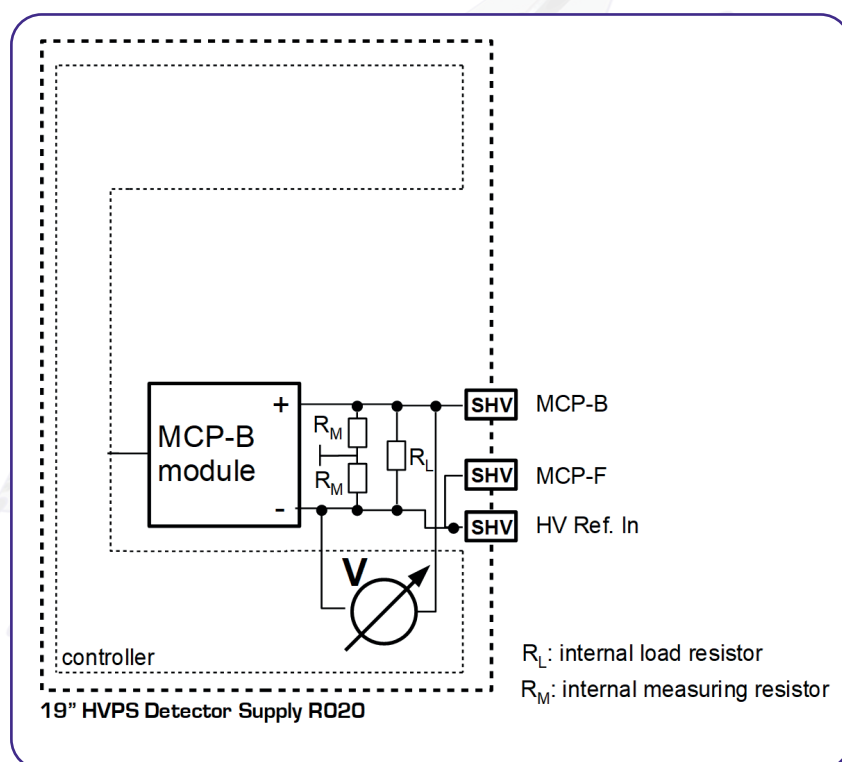

Figure 6: Schematic layout of the 19" HVPS Detector Supply R020 showing also the internal load and measuring resistors.
**Figure 6** shows the schematic layout of the 19" HVPS Detector Supply R020 and especially the layout of the HV outputs. An internal controller measures the output voltage and regulates it to the nominal value entered by the user or set as default value within the device. Hereby the voltage measurement is always a relative measurement. The output polarity is fixed defined (see the specific specification sheet for details on the max. output voltage and the polarity). The device comes with an integrated 2-fold fan-out for the output voltage of each channel. **Figure 6** also shows the internal load and measuring resistors.